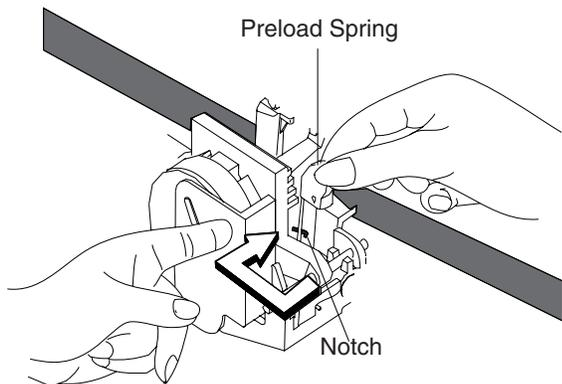

Figure 5-2. Print Head Preload Spring
- 2** Open the printer cover and ensure that the print head preload spring is holding the print head against the platen. See Figure 5-2.
T7152	<ol style="list-style-type: none">1 Ensure that the print head preload spring is in position to hold the print head against the platen. See Figure 5-2 on page 5-4. To exchange the print head preload spring, see page 5-34.2 Lubricate the carriage shaft, wear plate, and print head guide rods with #6 oil or equivalent. See “Lubricant Equivalents” on page D-1. Saturate the carrier oil wick with #6 oil or equivalent.3 Exchange the print head carriage motor and check the motor pulley for cracks. See page 5-36.4 Exchange the print head carriage drive belt. See page 5-36.5 Check the print head home sensor. See page 5-48.<ul style="list-style-type: none">• If the print head home sensor is failing, exchange it. See page E-15.• If the print head home sensor is not failing, adjust it. See page 5-13.6 Exchange the printer card. See page 5-38.
W305	<ol style="list-style-type: none"> 1 Ensure that the print head preload spring is in position to hold the print head against the platen. See Figure 5-2 on page 5-4. To exchange the print head preload spring, see page 5-34. 2 Lubricate the carriage shaft, wear plate and print head guide rods with #6 oil or equivalent. See "Lubricant Equivalents" on page D-1. Saturate the carrier oil wick with #6 oil. 3 Exchange the print head carriage motor and check the motor pulley for cracks. See page 5-36. 4 Exchange the print head carriage drive belt. See page 5-36. 5 Check the print head home sensor. See page 5-48. <ul style="list-style-type: none"> • If the print head home sensor is failing, exchange it. See page E-15. • If the print head home sensor is not failing, adjust it. See page 5-13. 6 Exchange the printer card. See page 5-38.
The printer does not print.	<ol style="list-style-type: none"> 1 Ensure that the print head is properly connected to the printer card. 2 Exchange the print head. See page 5-30. 3 Ensure that the print head preload spring is in position to hold the print head against the platen. See Figure 5-2 on page 5-4. To exchange the print head preload spring, see page 5-34. 4 Exchange the ribbon cartridge. See page 5-39. 5 Exchange the printer card. See page 5-38.